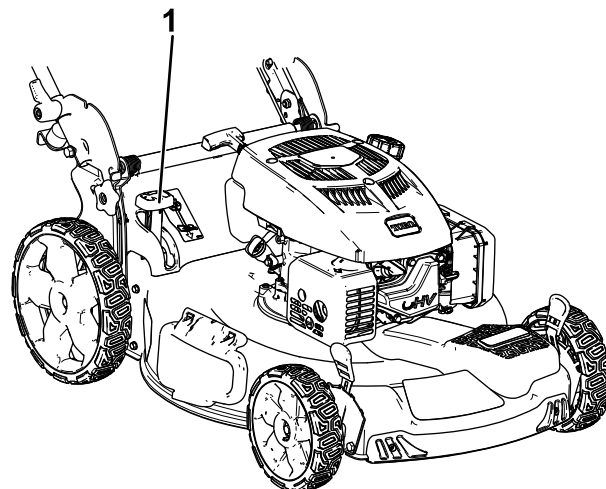

Figure 20
- **To bag the grass and leaf clippings**, press the button on the bag-on-demand lever and move the lever forward until the button on the lever pops up (Figure 20).